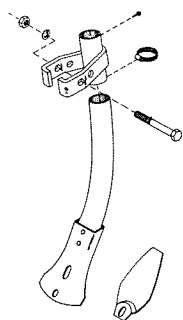

Figure 1
- 1) There is a standard seed boot (Figure 1), that is recommended for 12" spacing but can also be used on 9" spacing providing 12" shovels are installed on the cultivator. The seed is placed in a broadcast pattern with little or no row definition giving excellent swath support.